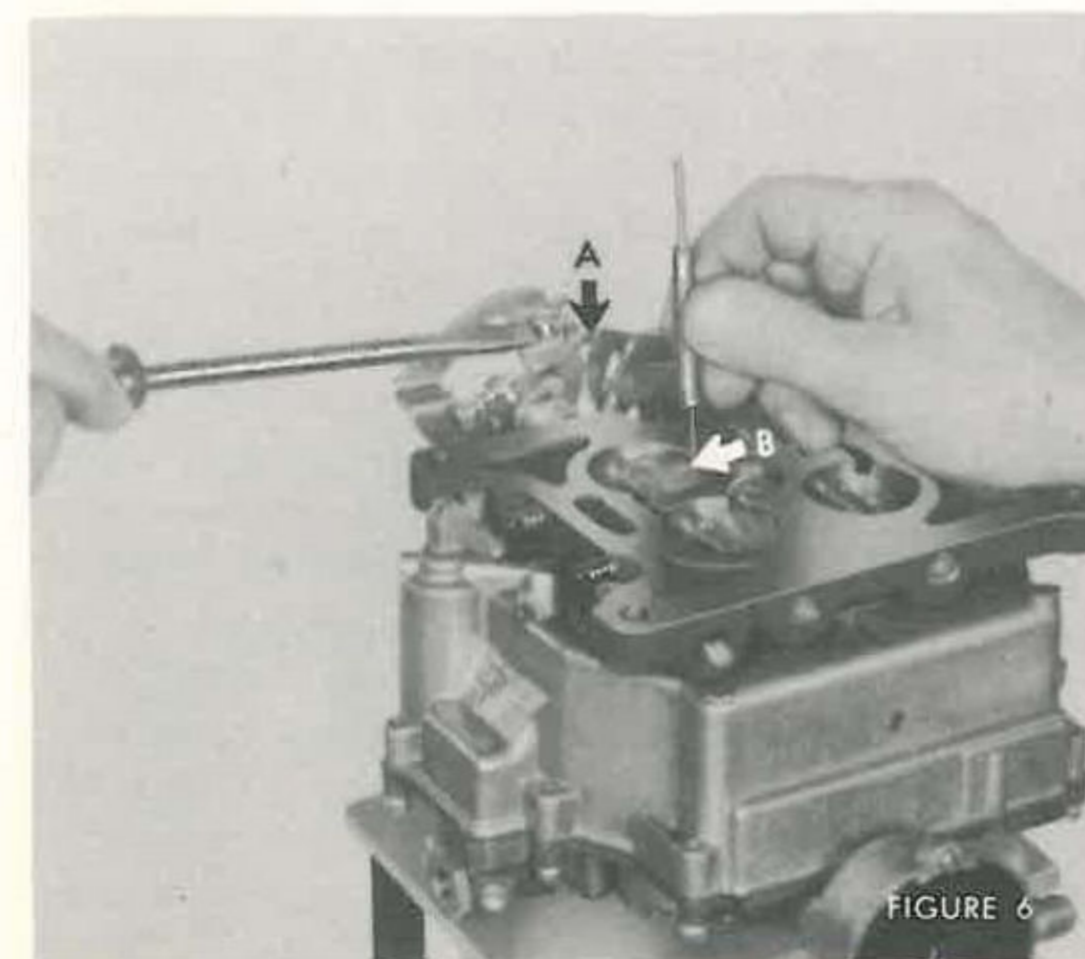

FIGURE 6
5. **Fast Idle Adjustment:** With the choke thermostat cover set at index, move the fast idle cam so that the choke valve is fully closed. Hold the throttle lever in the closed position so that the fast idle adjusting screw rests on the highest step of the fast idle cam "A" Fig. 6. Adjust the fast idle screw to obtain a clearance of .024" (Gauge J-6057) between the throttle valves and the primary bores of the throttle body on the side opposite the idle adjusting needles "B" Fig. 6.